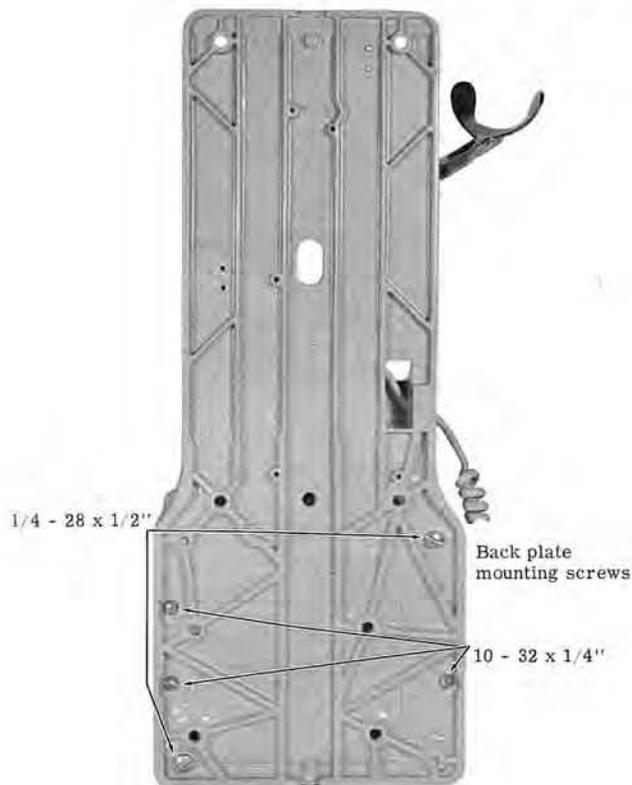
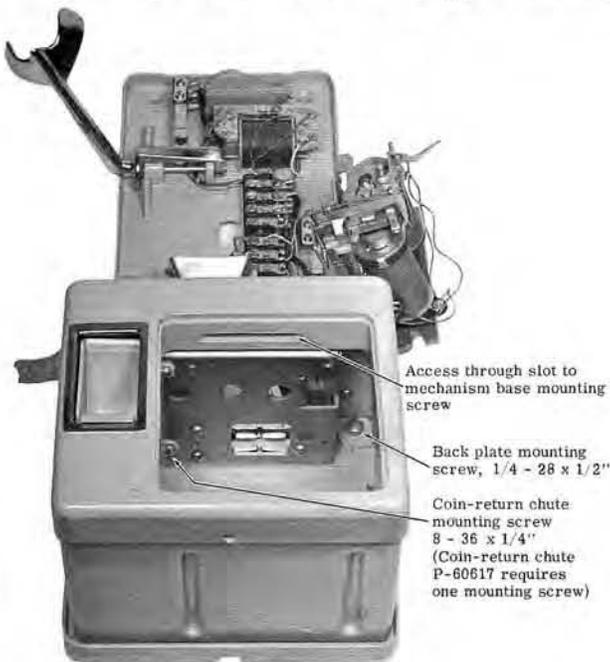
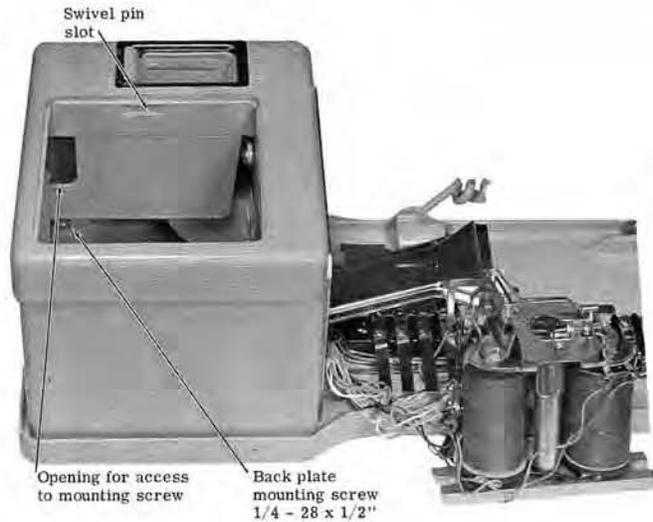

Figure 2.
Figure 4.
Figure 5.
- (4) Remove five mounting screws from the rear of the back plate (see Fig. 2).
housing (see Figs. 4 and 5). Access to the back plate mounting screw shown in Fig.5 is attained by placing a screwdriver with a blade of approximately 6
inches through the slot (shown above the mounting screw in Fig. 5) and onto the screw. Remove lower housing from back plate. Be careful not to disturb relay assembly wire connections.
- (12) Insert swivel pin. Lay the housing on the work bench with the left side down so that the head of the swivel pin is flush against the work bench. Peen over legs of swivel pin against side of partition within slot (see Figs.5 and 10). Legs must be peened completely into slot. If any portion of legs protrudes above slot, installation of cash compartment door may not be possible.
- (1) Remove mounting screws that attach old coin-return chute to mechanism base.
- (2) Place the mechanism base in position on lower housing with mounting holes aligned and install mechanism base mounting screws (see Figs.3 and 4). Install the screw through the slot last (see Fig.4); Use adhesive material such as beeswax on tip of screwdriver to hold screw during insertion.
- (3) Install coin-return chute mounting screw (see Fig.4).
- (4) With the lower housing upright, place the back plate and relay assembly in position for attachment. Be careful not to disturb relay assembly wire connections.
- (5) Install five back plate mounting screws from rear of back plate (see Fig.2).
- (7) Place back plate and lower housing down on bench so that opening in cash compartment faces up. Install back plate mounting screws shown in Figs.4 and 5. To install screw shown in Fig.5, attach screw to screwdriver tip with adhesive material such as beeswax; insert screw through opening (shown above mounting screw in Fig.5) and into position; tighten screw.